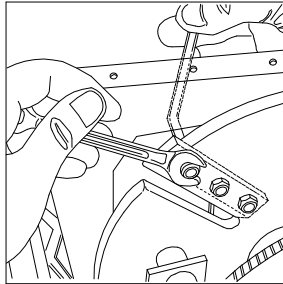

Fig. 12
- Insert the keys in the two apertures (fig. 12) and remove the blade .